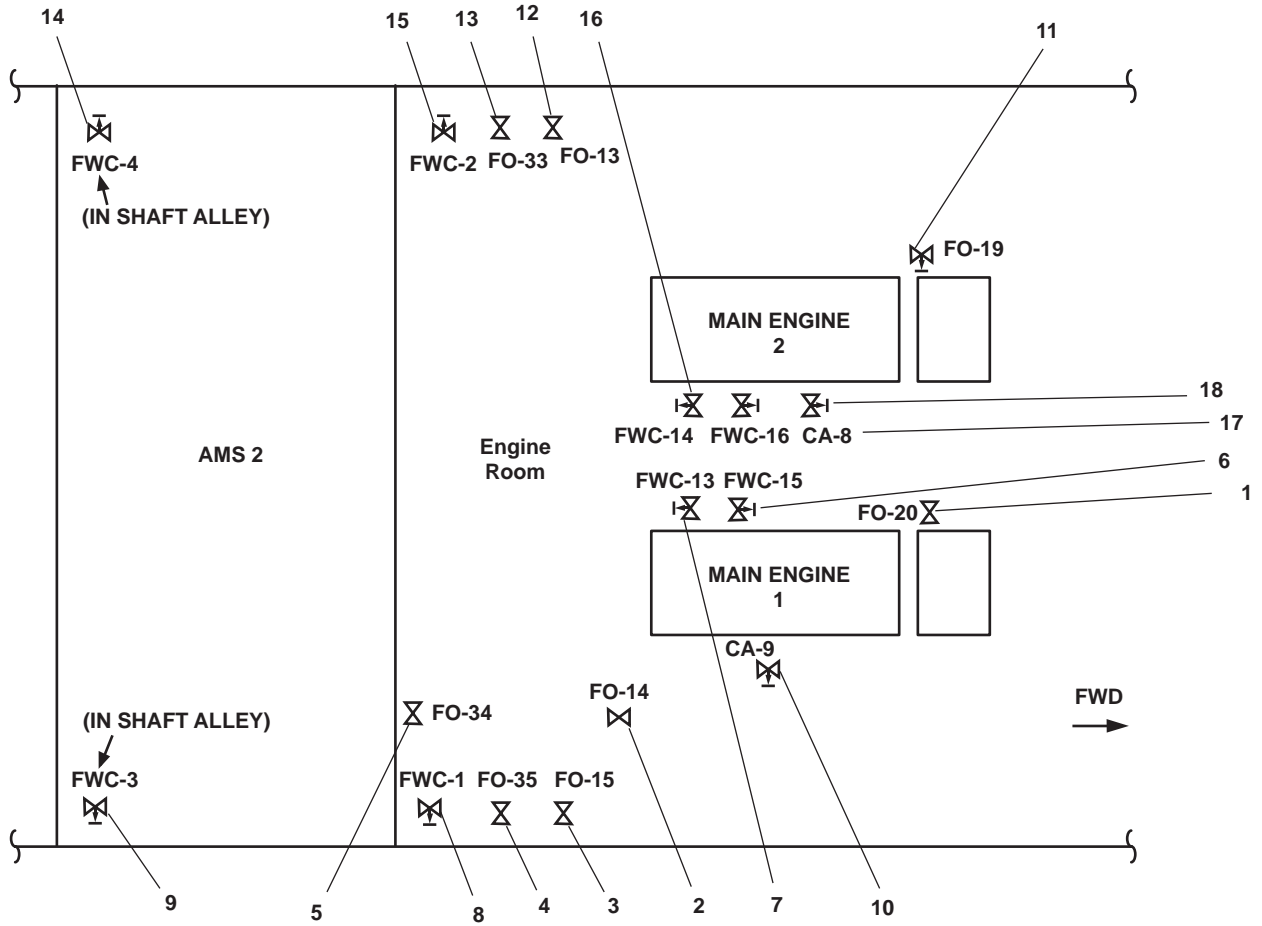

Figure 6. Main Propulsion System Valve Locations
- a. FO-20, F.O. SPLY TO STBD ME No. 1 (figure 6, item 1)
- b. FO-14, F.O. SERV CRSVR (figure 6, item 2)
- c. FO-15, F.O. SERV. SUCT. STBD (remote operator in the galley) (figure 6, item 3)
- d. FO-35, F.O. RTN TO DAY TK. STBD (figure 6, item 4)
- e. FO-34, F.O. RTN CRSVR (figure 6, item 5)
- a. Fwc-15, F.W. FR. KEEL CLR TO RED. GEAR No. 1 (figure 6, item 6)
- b. Fwc-13, F.W. FR. RED. GEAR No. 1 TO KEEL CLR (figure 6, item 7)
- c. Fwc-1, F.W. FR. KEEL CLR TO M.E. N0. 1 (figure 6, item 8)
- d. FWC-3, F.W. FR. M.E. No. 1 TO KEEL CLR. (figure 6, item 9)
14. OPEN valve CA-9, STG AIR TO ME #1 (figure 6, item 10).